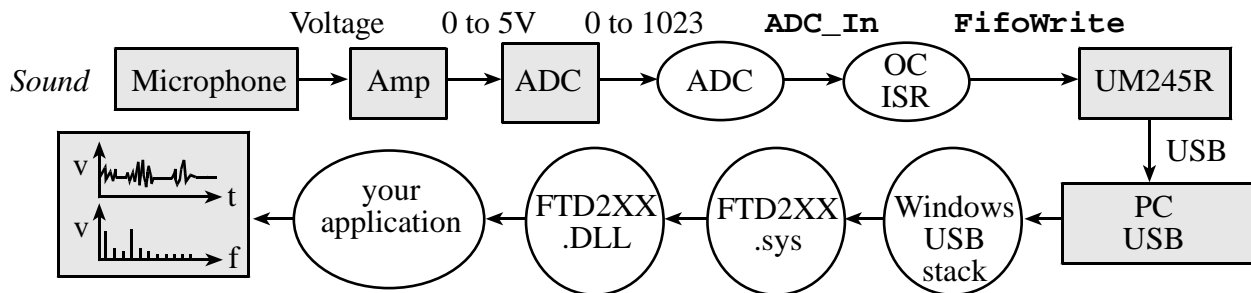

Figure 16.1. Data-flow graph of the digital scope and spectrum analyzer.
This lab builds upon the audio recording system developing in Lab 22. Figure 16.1 shows the data-flow graph of the digital scope and spectrum analyzer system. The electret microphone is a low-cost low-fidelity transducer appropriate for voice recording. An analog band-pass filter will be used to improve signal to noise ratio and to prevent aliasing. You will use an ADC converter on the 9S12 to convert the analog signal into digital form. You are free to choose any sampling rate (f_s) you wish, as long as the sampling is performed in real time. The periodic ISR creates the real time sampling, and data is written into a *Fifo* queue located in the DLP Designs UM245R module. This module is based on the chip FT245R made by FTDI (Future Technology Devices International Ltd.). The data is then transmitted to the PC using a USB interface. Windows, a device driver (FTD2XX.sys) and an application programmer interface (FTD2XX.DLL) are provided. You will write an application that runs on the PC displaying the data. Start and stop commands can be sent from your application on the PC to the 9S12 allowing the PC to control activity on the microcontroller. The measurements are displayed on the PC in both time-domain and frequency-domain formats.
2. Write a main program that implements the data flow as described in Figure 16.1. Add debugging instruments that you can use to verify the sampling is performed in real time. In particular quantitatively measure the sampling jitter of your system.